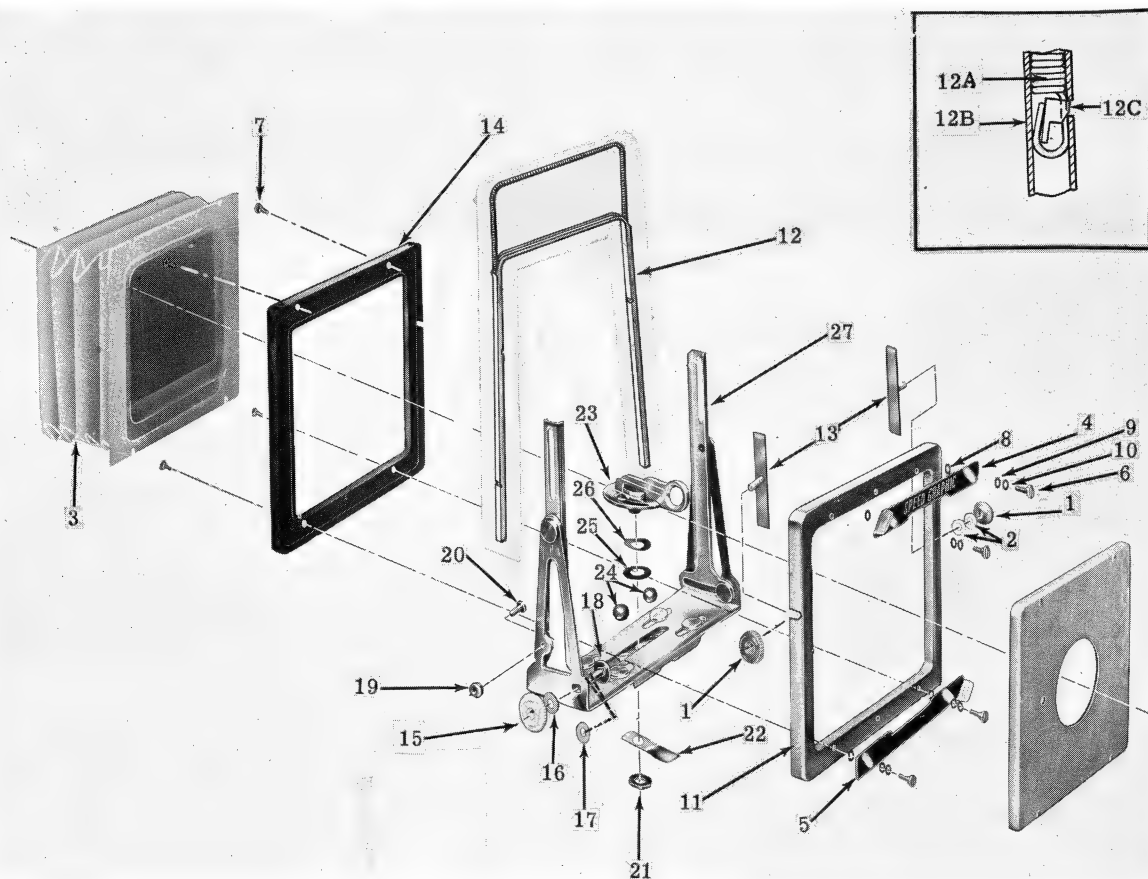

Figure 19. Front Standard Complete
NOTE: If it is not necessary to remove the bellows assembly (3, figure 19), slide the front standard from the bed and proceed from paragraph C.
- c) Set the curtain at "0", (open), and remove the two bellows retaining clips (23).
- d) To remove the bellows from the frame and support section, remove the lower slidelock (5, figure 19) that is secured by two slidelock screws (6). Loosen the two upper slidelock screws (6). Swing the lower edge of the front bellows frame back and drop the upper edge free from the slidelock nut head.
- a) Remove the frame clamp knob (rising front) (1, figure 19) from the right side of the front standard. Slip the manual trip bracket (27C, figure 3) from the stud.
- a) Remove two rising front knobs (1, figure 19) from each side of the frame. The ends of the stud securing knobs are staked. Remove the upper and lower slidelocks (4 and 5) that are attached by slidelock screw (6) flat washers (8 and 9) and spring washer (10).
- b) Spread the standard support assembly (27) enough to slide the lensboard frame upward and free of the channel.
- c) Lift the outer front frame assembly (11) evenly from the assembly to expose the inner parts of the frame and remove the finder complete (12).
- 4) Lateral Shift Spring and Lock Lever Disassembly. The lever assembly (23) and the shift locking spring (22) are secured by the special hex nut (21). Unscrew the special nut (21) from the bottom of the standard support assembly (27). The shift locking spring may now be removed. Unscrew the slotted stud
1. The bellows (3) should be wiped free of dirt on the outside with a damp cloth. Scrub the inside surface with a stiff brush (old toothbrush) and blow out all loose dirt and grit.
3. Clean the sliding area of the finder (12A, figure 19), the finder frame (12B) and the front frame clamp plate assemblies (13) in solvent (AN-T-37a) and dry before reassembly.
4. Squareness adjustment is set by the front standard eccentric (20) and special lock head nut (19) located on each side.
2. Inspect finder complete (12, figure 19) for squareness.
1. Lateral Shift and Lock Lever. To the lever assembly (23, figure 19) assemble the spring washer (26) and the flat washer (25). Fit the two steel balls (24) into their position between the lever assembly (23) and the standard support assembly (27) and thread the lever assembly stud through the standard support assembly. Lay the shift locking spring (22) in position and assemble the special hexagon nut (21).
2. Adjusting Lock Lever. Check the front standard to determine how tightly it will lock, by placing on the sliding yoke of the bed and setting the lock lever (23). It should clamp tightly enough to prevent slippage when the bellows and lens are assembled. To tighten the lock lever, loosen the lock nut (21) on the bottom side and turn the screw in a counter clockwise direction; to loosen the lock, turn the screw in a clockwise direction and tighten the nut.
b) Thread the manual trip bracket (27C, figure 3) through the bellows hangers and mount the bracket over the right front frame clamp plate stud. Assemble the frame clamp knob (1, figure 19) and peen the first thread of the stud at one point.